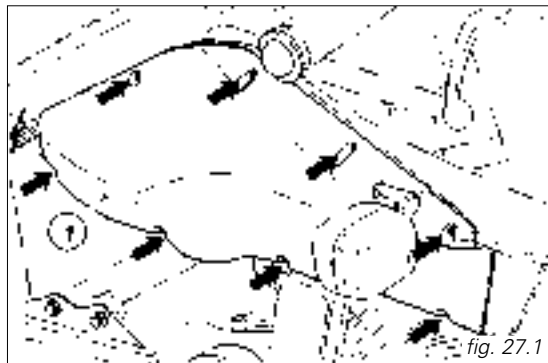

fig. 27.1
Cleaning and changing air filters (fig. 27.1)
Undo the eight fastening screws of the outer cover (1, fig. 27.1). Remove the cover but leave it hanging from the turn indicator cable. Do not remove the reduction element (4) from its seat.